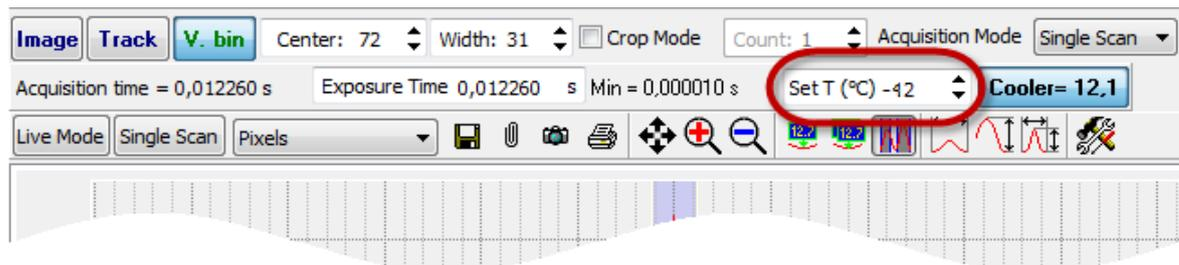

Fig. 10-12. Setting the cooling temperature
4. Define cooling temperature of the CCD-matrix (in the range of $-40 \div -50$ °C) in the **Set T(°C)** input field available in the Toolbar (Fig. 10-12).